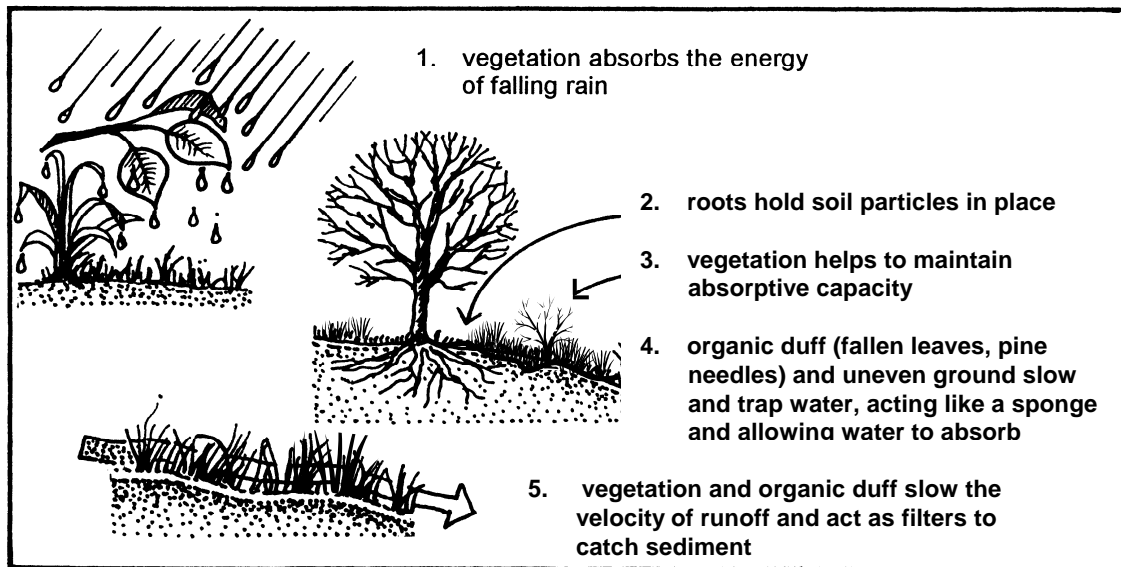

Figure 3. Effect of Vegetative Cover on Erosion
**Vegetative cover and organic duff layer in forests** is important because it shields the soil from the impact of raindrops and protects the soil surface from scouring. Vegetation helps reduce the speed and amount of surface water runoff and it acts as a natural filter to help remove pollutants. Plants also aid in aerating and removing water from the soil, thus maintaining the soil's capacity to absorb water. Plant root systems also help hold soil particles in place (see Figure 3).